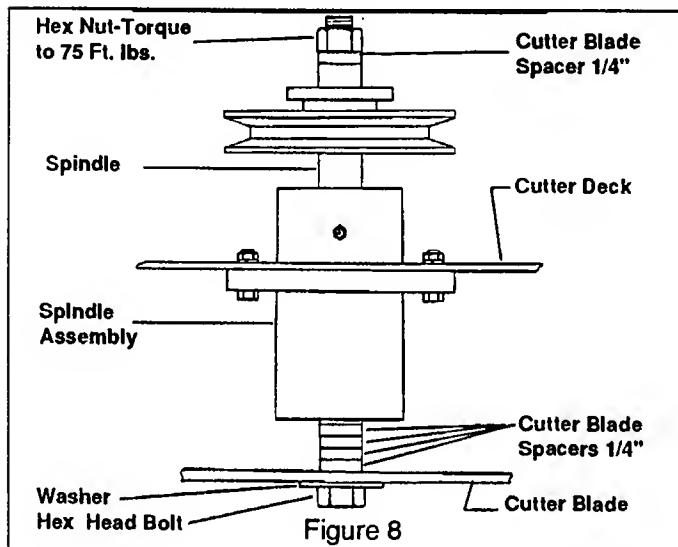

Figure 8
**HEIGHT** is the nominal distance the blade is off of the ground (this measurement is made with the blades pointed side to side and distance is measured between cutting tip and ground). Adjusting the blade height can be done by moving any number of the five spacers on the blade mounting bolts to the top of the spindle shaft or below the spindle shaft (all blades should be positioned equally). Unit is shipped with one spacer on top and four underneath (see fig. 8 & 9). This adjustment does not effect blade pitch.